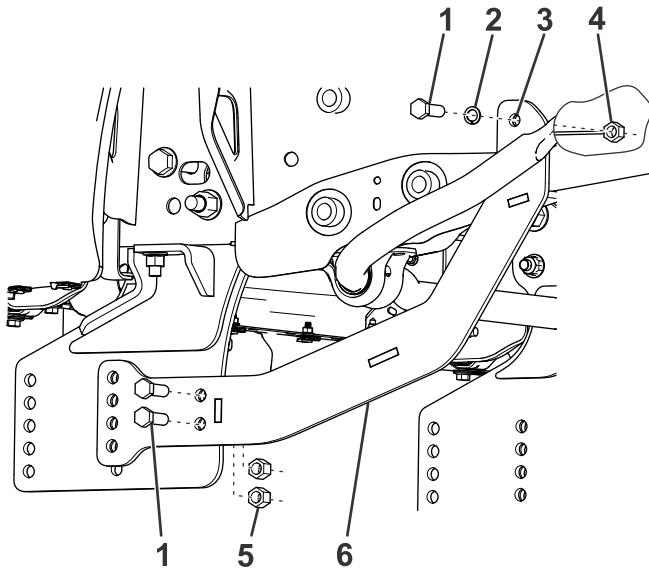

Figure 5
6. Loosely secure the angle brackets to the sideplates using 2 bolts (1/2 x 1-1/2 inches) and nylon locknuts (Figure 5).
7. Using the angle bracket as a guide, mark and drill a hole (9/16 inch) in the outer wall of the vehicle frame rail (Figure 5).
9. Loosely secure the top of the angle bracket to the vehicle frame using a bolt (1/2 x 1-1/2 inches), split lockwasher, and nut bar (Figure 5).